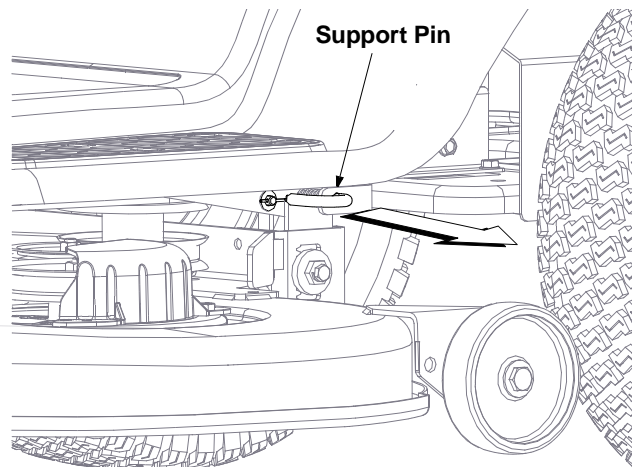

Figure 13
4. Looking at the cutting deck from the left side of the tractor, locate the deck support pin on the rear left side of the deck. See Figure 13.